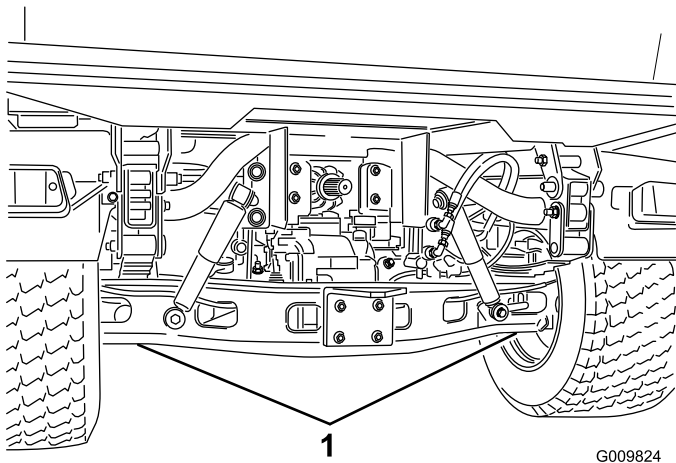

Figure 39
- The jacking point at the front of the vehicle is under the front center frame support (Figure 38) and at the rear it is under the axle (Figure 39).